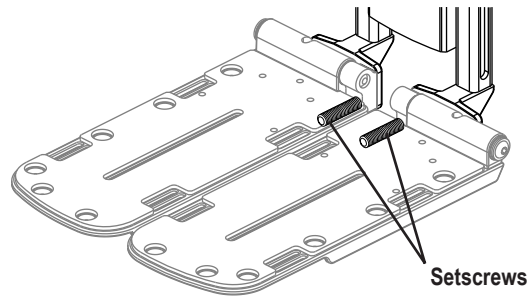

Figure 18. Angle Adjustment for Foot Plate
1. Flip up the foot plate and locate the screw. **See figure 18.**